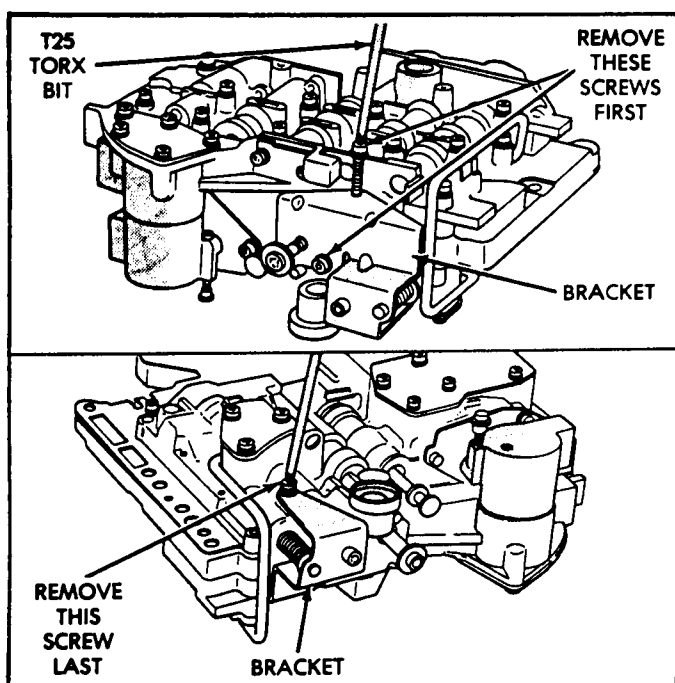

Figure 107
39. Install the short, upper bracket screw first, and long bottom screw last (See Figure 107).